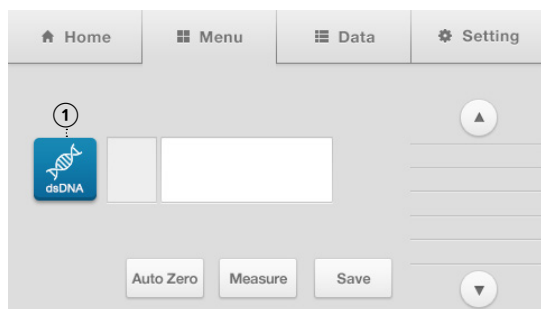

Fig. 2.6
[Fig 2.6] The Setting screen will appear if the ① icon is pressed on the screen after entering measurement mode.